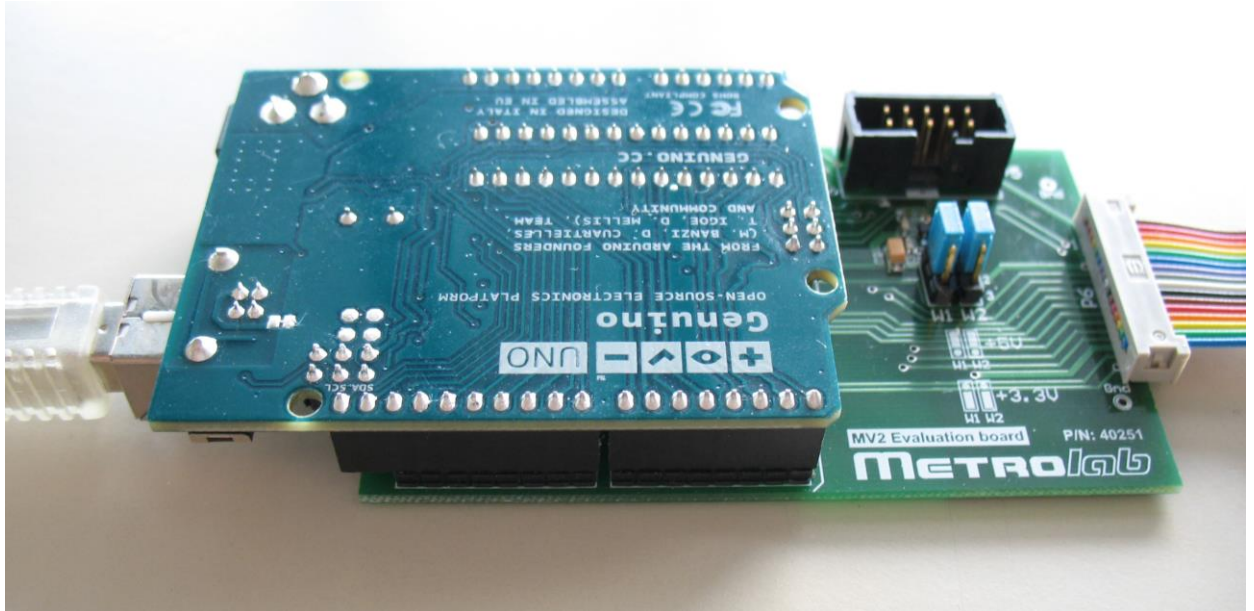

Figure 19. Arduino/Genuino UNO connected to MagVector MV2 test board.
As shown in Figure 19, the Arduino UNO's connectors mate exactly with those on the test board: the Arduino UNO Digital headers (IOL and IOH) connect to P1 and P2, respectively, on the test board; the Arduino UNO Analog (AD) and Power (POWER) headers connect to P3 and P4, respectively, on the test board. Note that the last two pins of the Digital header (IOH-9 – SDA and IOH-10 – SCL) are not connected to the test board.